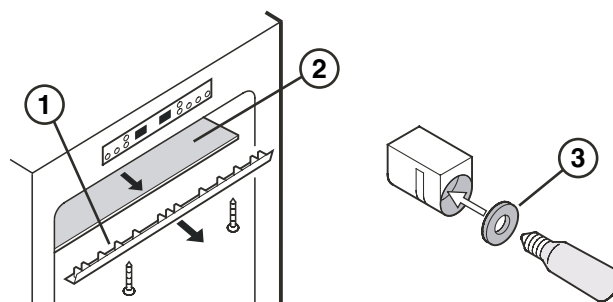

Figure 10
1. Remove the two screws securing the cover (Fig. 10, ①). Pull the cover straight out.
2. Remove the glass plate (Fig. 10, ②).
3. Remove the defective bulb. Make sure the seal (Fig. 10, ③) is placed on the new bulb before installing it.